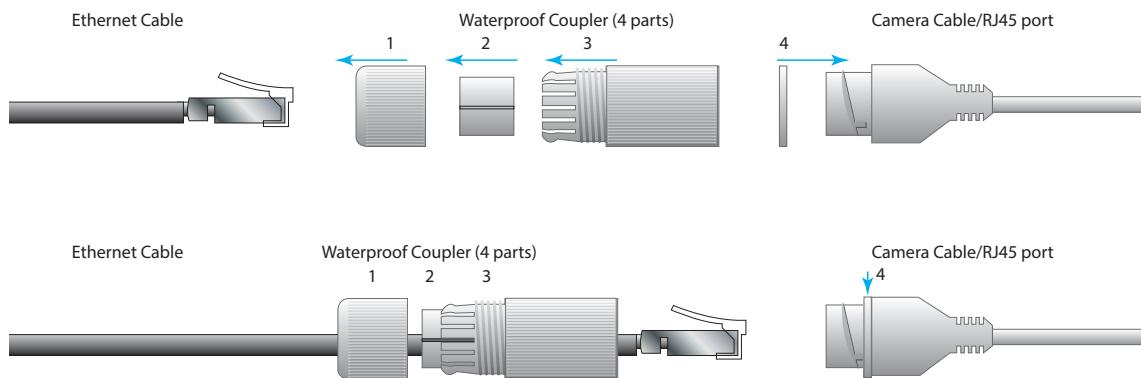

Fig. 7
- Install the four-piece waterproof coupler that came with the camera. Three pieces (1, 2, and 3) are installed on the Ethernet cable, while the fourth piece, the thin washer (4), is inserted over the RJ45 port of the camera cable. See Fig. 7.